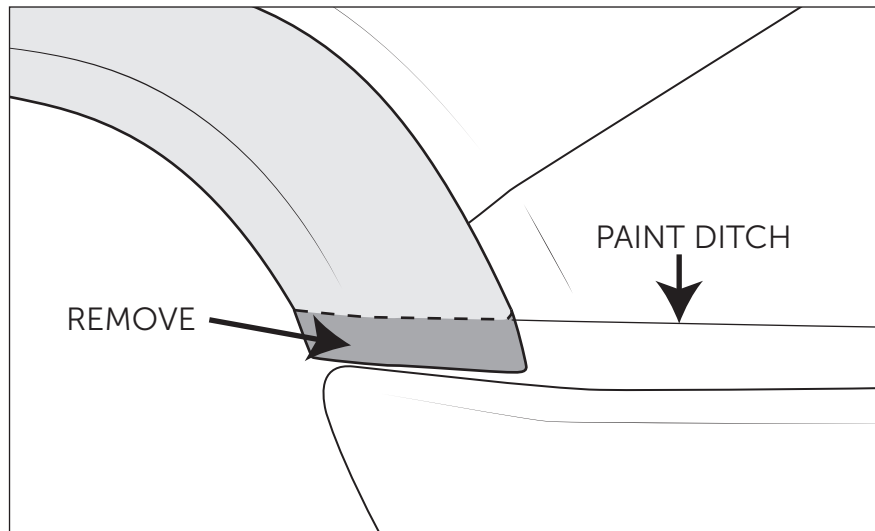

Figure 10
- C. Trim the bottom edge of the fender flares to sit flush with the paint ditch on the headlamp filler. This will allow an aftermarket bumper to flex without interference (fig. 10).